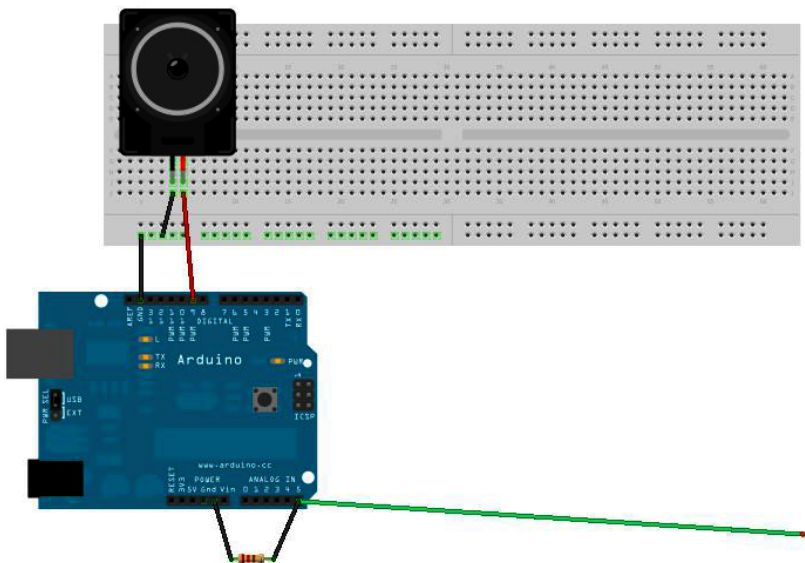

Figure 4-3. EMI detector: one lead of 8-ohm speaker connected to GND pin on Arduino, the other to digital port 8.
**Step 5** Connect one lead of the 8-ohm speaker to digital port 9 on Arduino, and the other lead into GND, as shown in the breadboard view (Figure 4-3).